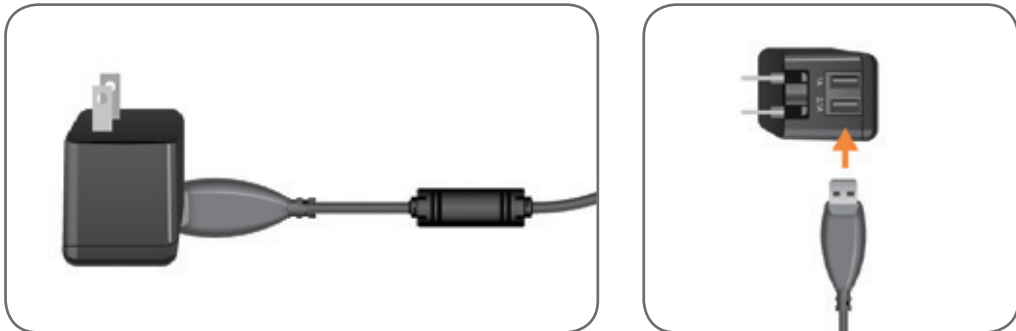

Figure 6-1: Inserting USB Charging Cable into AC Adapter
2. Insert the USB end on the magnetic charging cable into any of the two available USB ports on the AC adapter. For individuals using both the lower leg FS Cuff and thigh FS Cuff connect an additional USB charging cable to the AC adapter. See Figure 6-1.